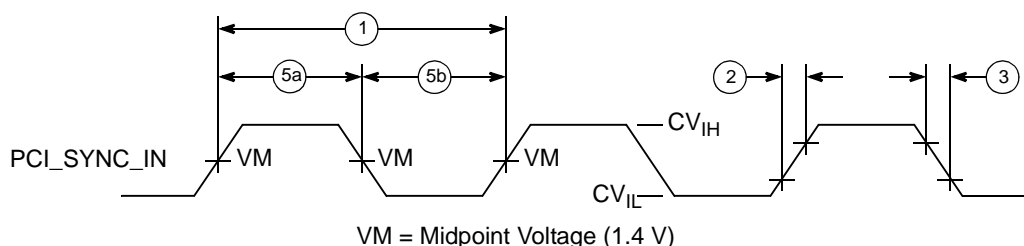
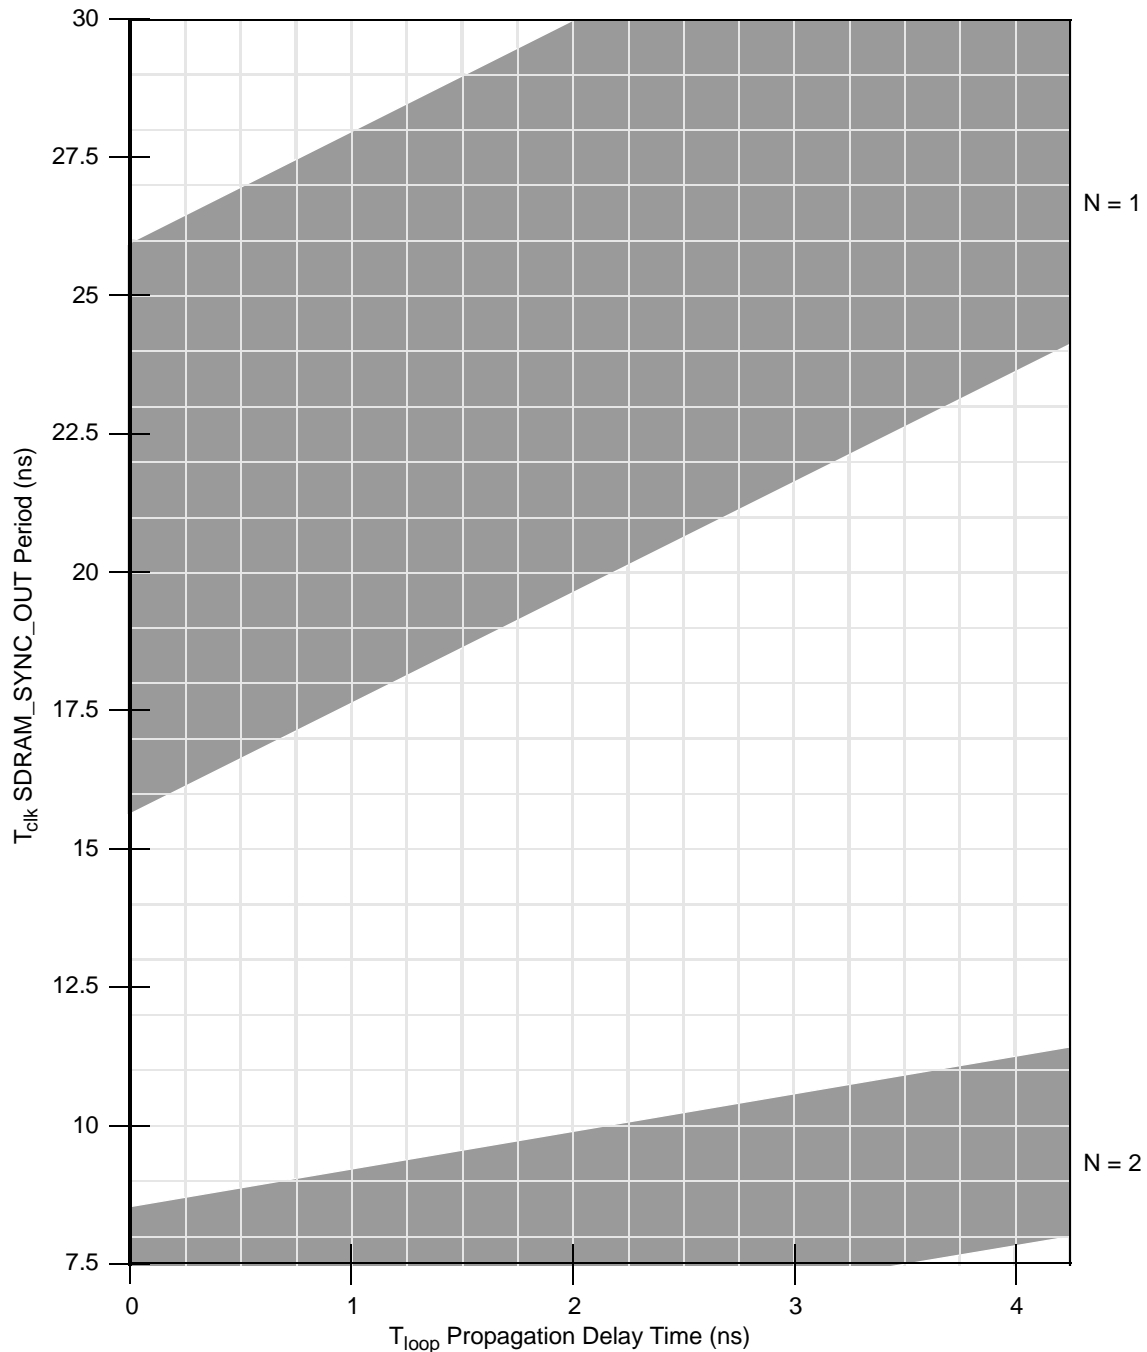
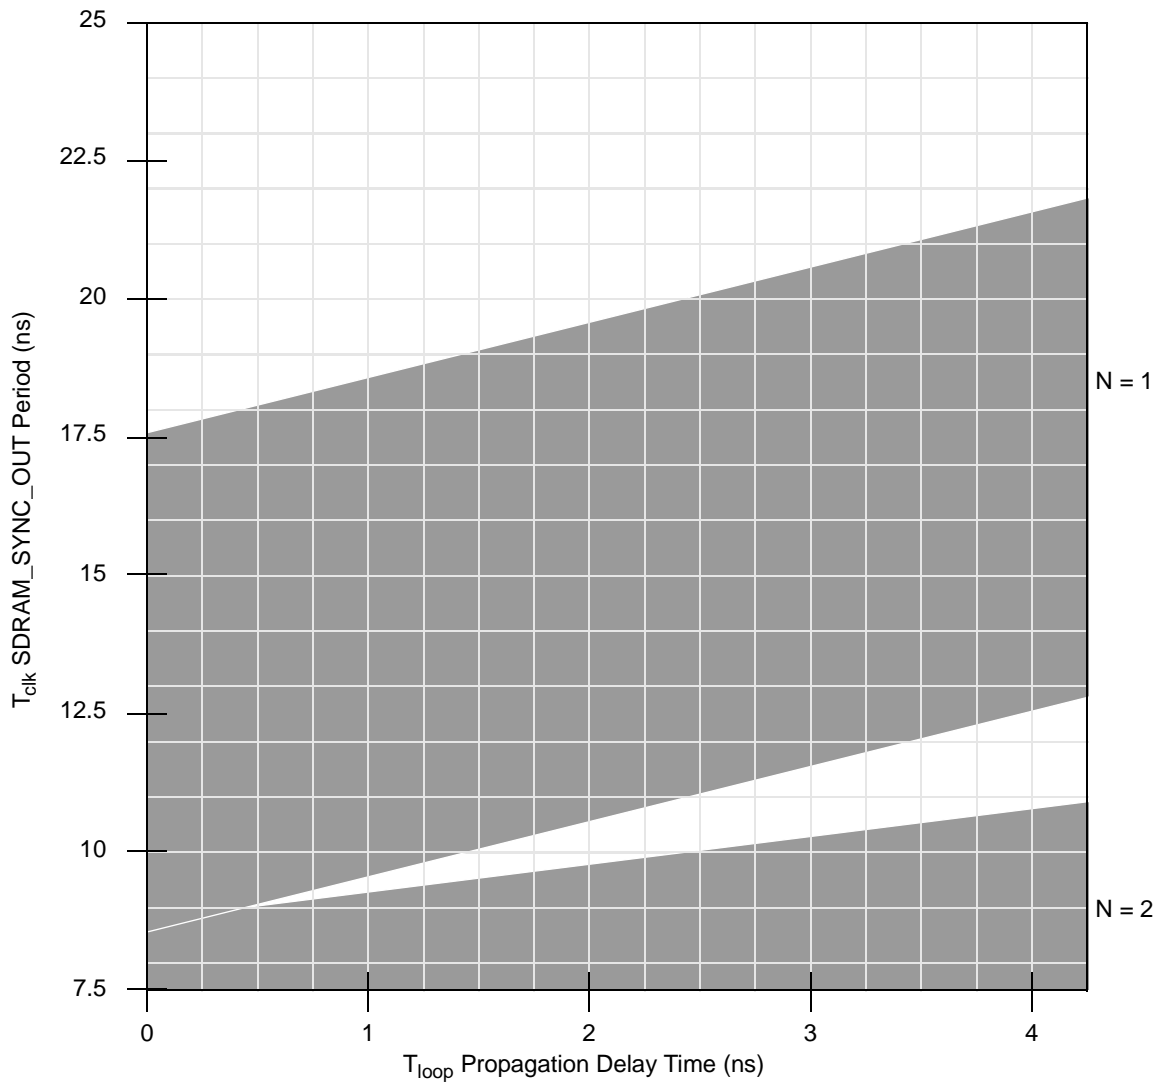

Figure 6. PCI_SYNC_IN Input Clock Timing Diagram
Figure 7. DLL Locking Range Loop Delay vs. Frequency of Operation for `DLL_Extend = 1` and Normal Tap Delay
Figure 10. DLL Locking Range Loop Delay vs. Frequency of Operation for DLL_Extend = 0 and Max Tap Delay
Table 8 provides the clock AC timing specifications at recommended operating conditions, as defined in Section 1.4.3.2, “Input AC Timing Specifications.” These specifications are for the default driver strengths indicated in Table 4. Figure 6 shows the PCI_SYNC_IN input clock timing diagram with the labeled number items listed in Table 8.
6. DLL_EXTEND is bit 7 of the PMC2 register <72>. N is a non-zero integer (see Figure 7 through Figure 10). T_{clk} is the period of one SDRAM_SYNC_OUT clock cycle in ns. T_{loop} is the propagation delay of the DLL synchronization feedback loop (PC board runner) from SDRAM_SYNC_OUT to SDRAM_SYNC_IN in ns; 6.25 inches of loop length (unloaded PC board runner) corresponds to approximately 1 ns of delay. $T_{dp}(\text{max})$ and $T_{dp}(\text{min})$ are dependent on tap delay. See Table 9 for values of $T_{dp}(\text{max})$ and $T_{dp}(\text{min})$. See Figure 7 through Figure 10 for DLL locking ranges. Refer to Motorola Application Note AN2164, *MPC8245/MPC8241 Memory Clock Design Guidelines*, for more details on memory clock design.
Figure 6 shows the PCI_SYNC_IN input clock timing diagram and Figure 7 through Figure 10 show the DLL locking range loop delay vs. frequency of operation.
Figure 7 through Figure 10 show the DLL locking range loop delay vs. frequency of operation. These graphs define the areas of DLL locking for various modes. The grey areas represent where the DLL will lock.
- T_{os} represents a timing adjustment for SDRAM_SYNC_IN with respect to *sys_logic_clk*. Due to the internal delay present on the SDRAM_SYNC_IN signal with respect to the *sys_logic_clk* inputs to the DLL, the resulting SDRAM clocks become offset by the delay amount. The feedback trace length of SDRAM_SYNC_OUT to SDRAM_SYNC_IN must be shortened by this amount relative to the SDRAM clock output trace lengths to maintain phase-alignment of the memory clocks with respect to *sys_logic_clk*. Note that the DLL locking range graphs of Figure 7 through Figure 10 compensate for T_{os} and there is no additional requirement to shorten T_{loop} by the duration of T_{os} . Refer to Motorola Application Note AN2164, *MPC8245/MPC8241 Memory Clock Design Guidelines*, for more details on accommodating for the problem of T_{os} and trace measurements in general.